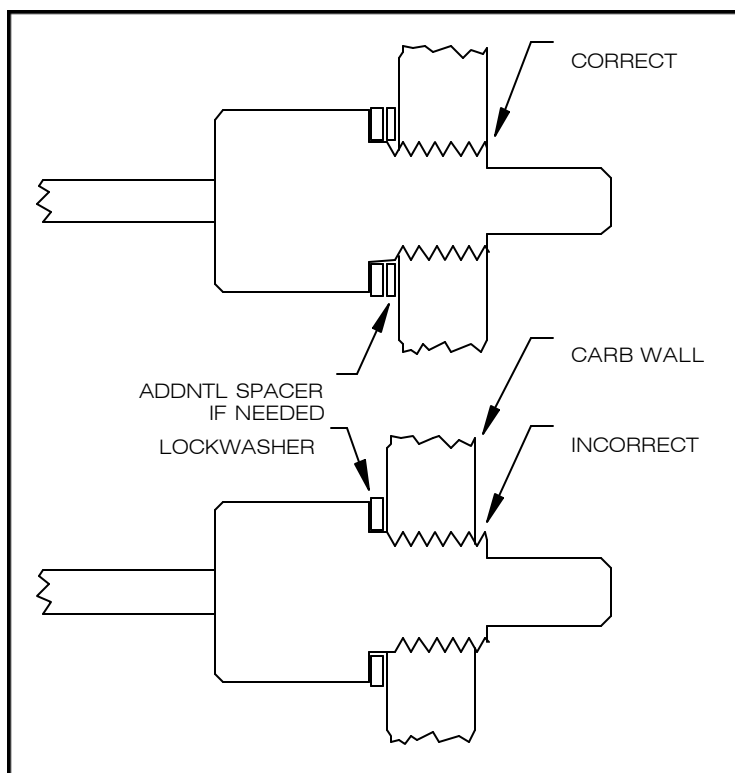

Figure 2 Temperature sensor in wall of carburetor, showing lock washer or lock washer/spacer controlling depth of sensor tip.
- ___ 7. Screw the sensor with lock-washer into the hole and note whether a portion of the threaded length protrudes into the inner barrel of the carburetor as shown in **Figure 2**. Note the approximate error if any.